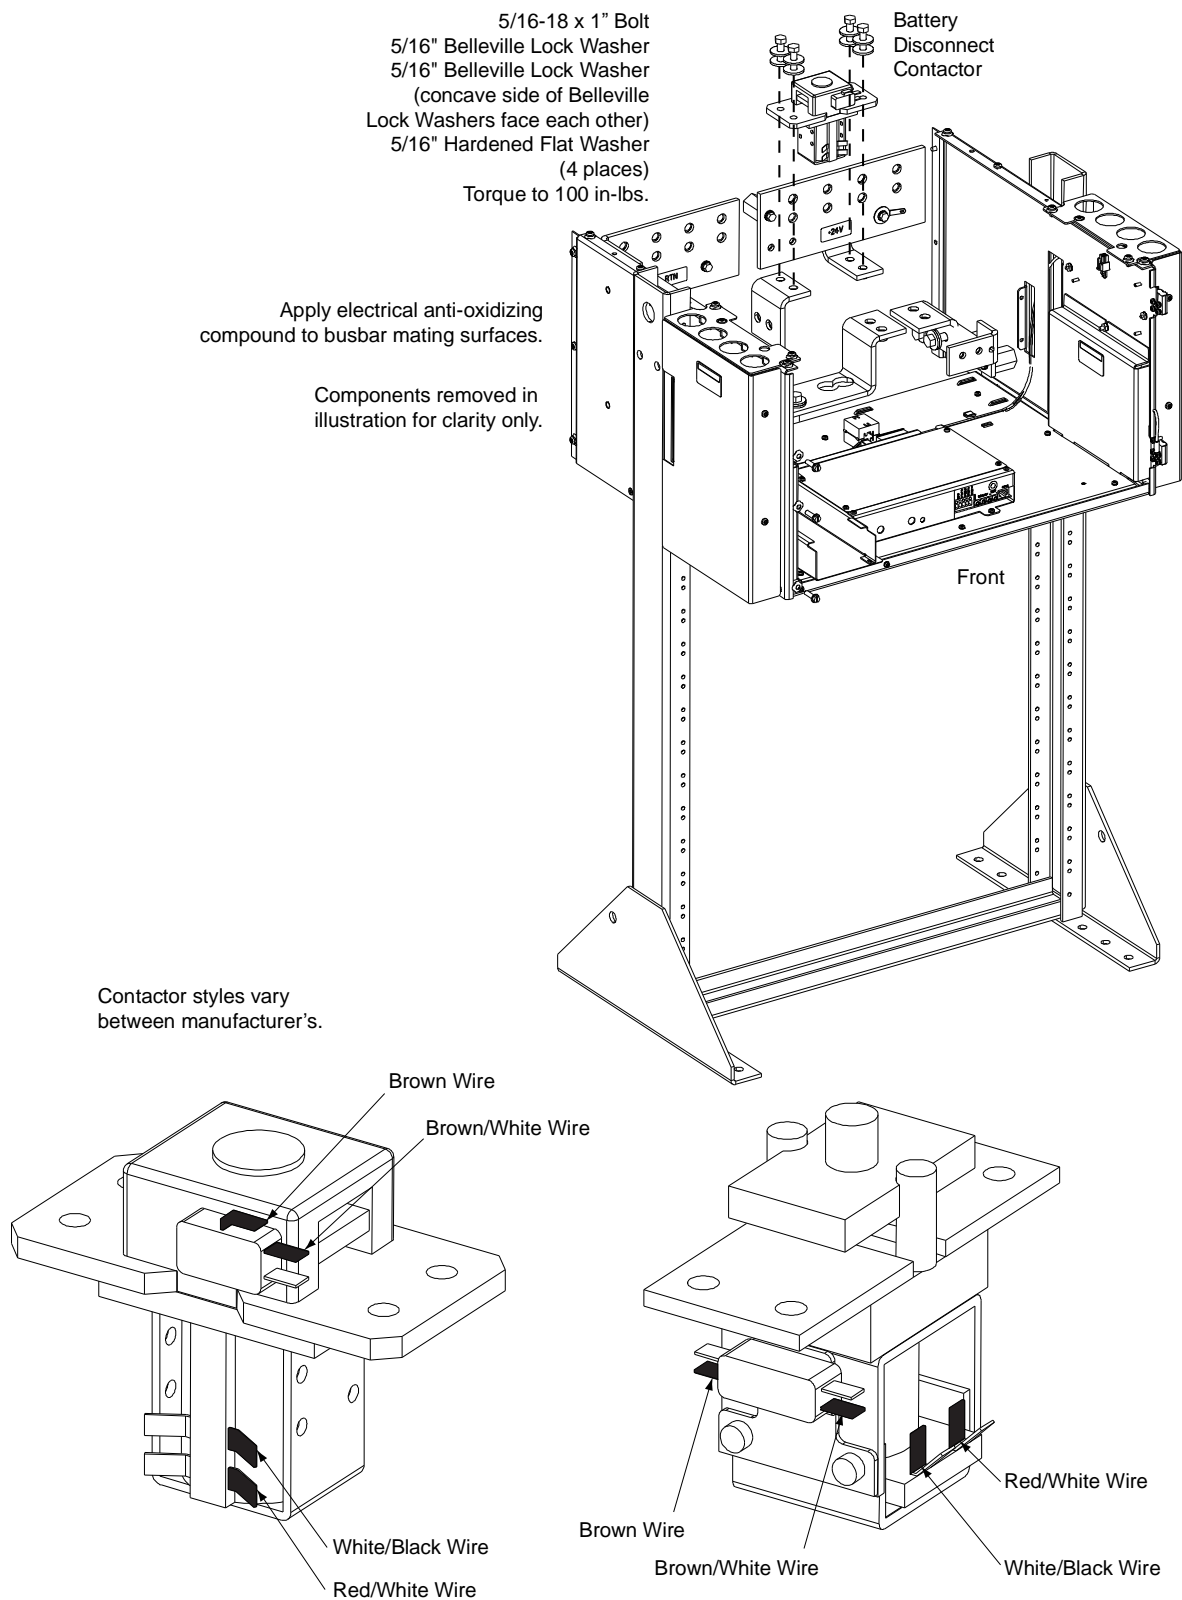
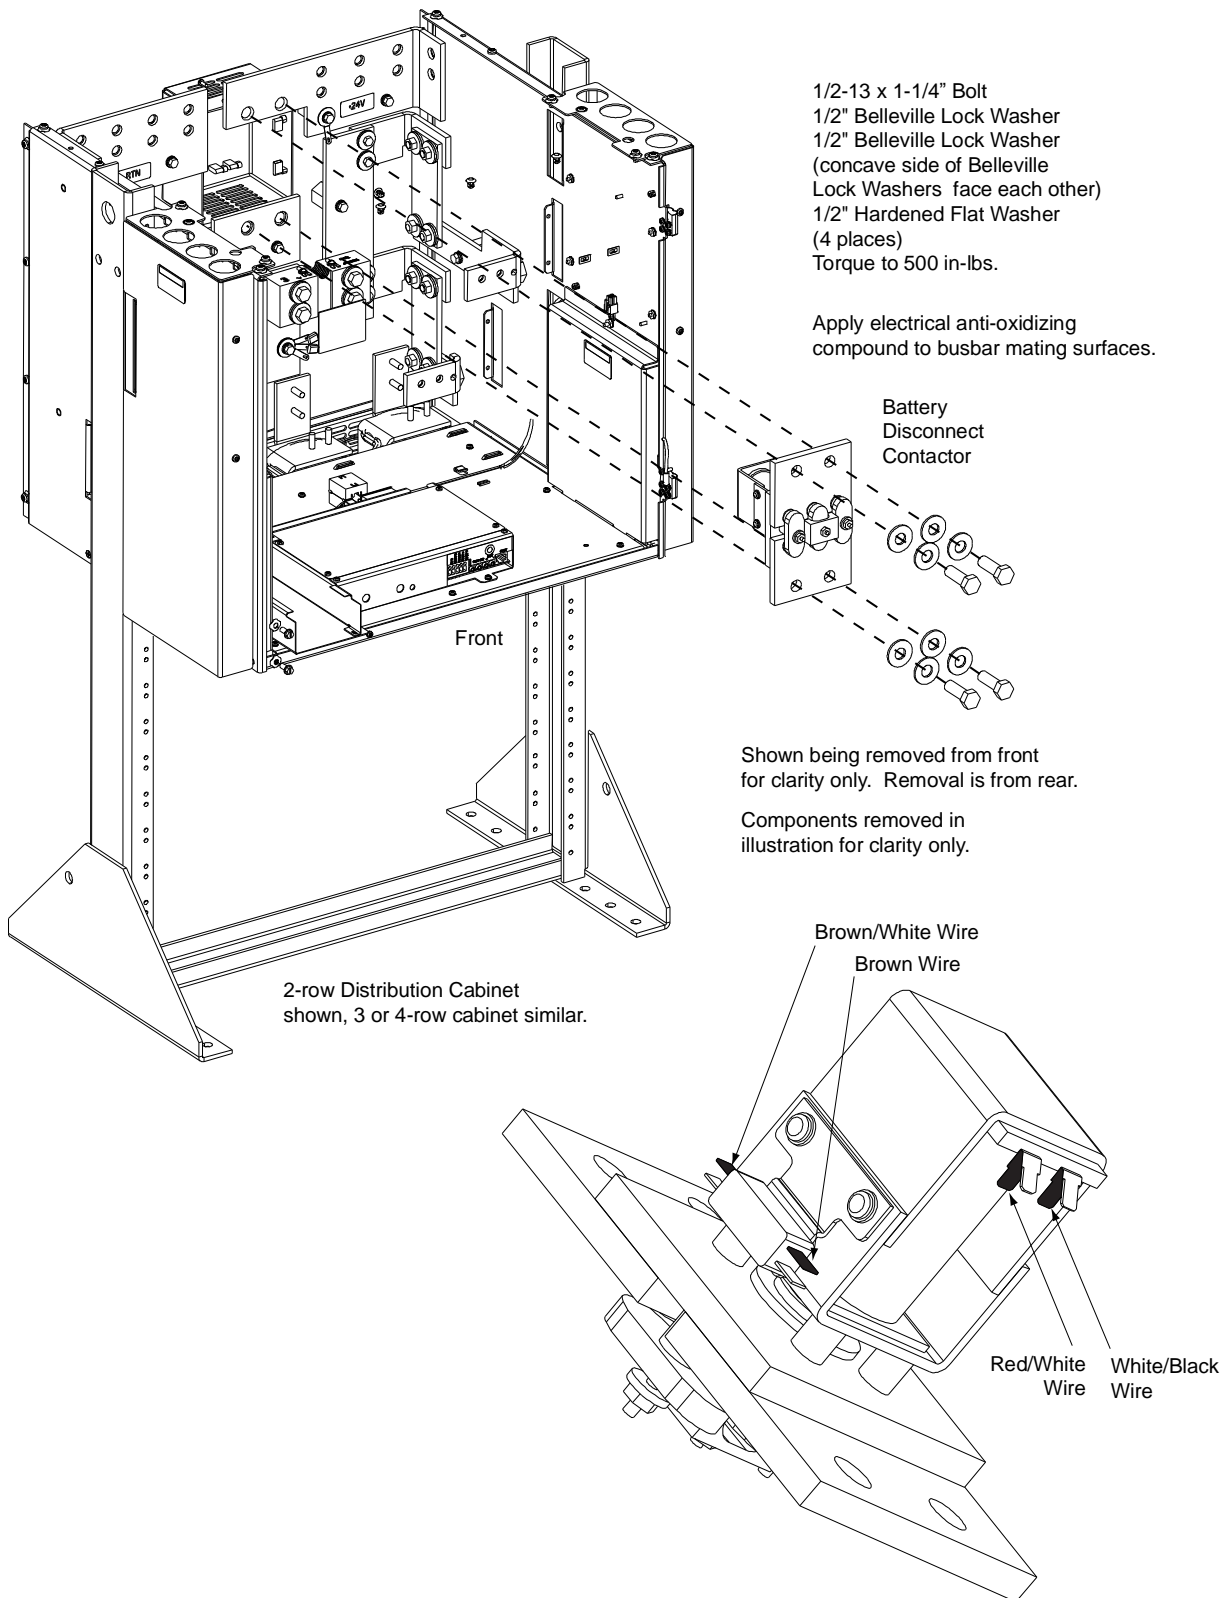
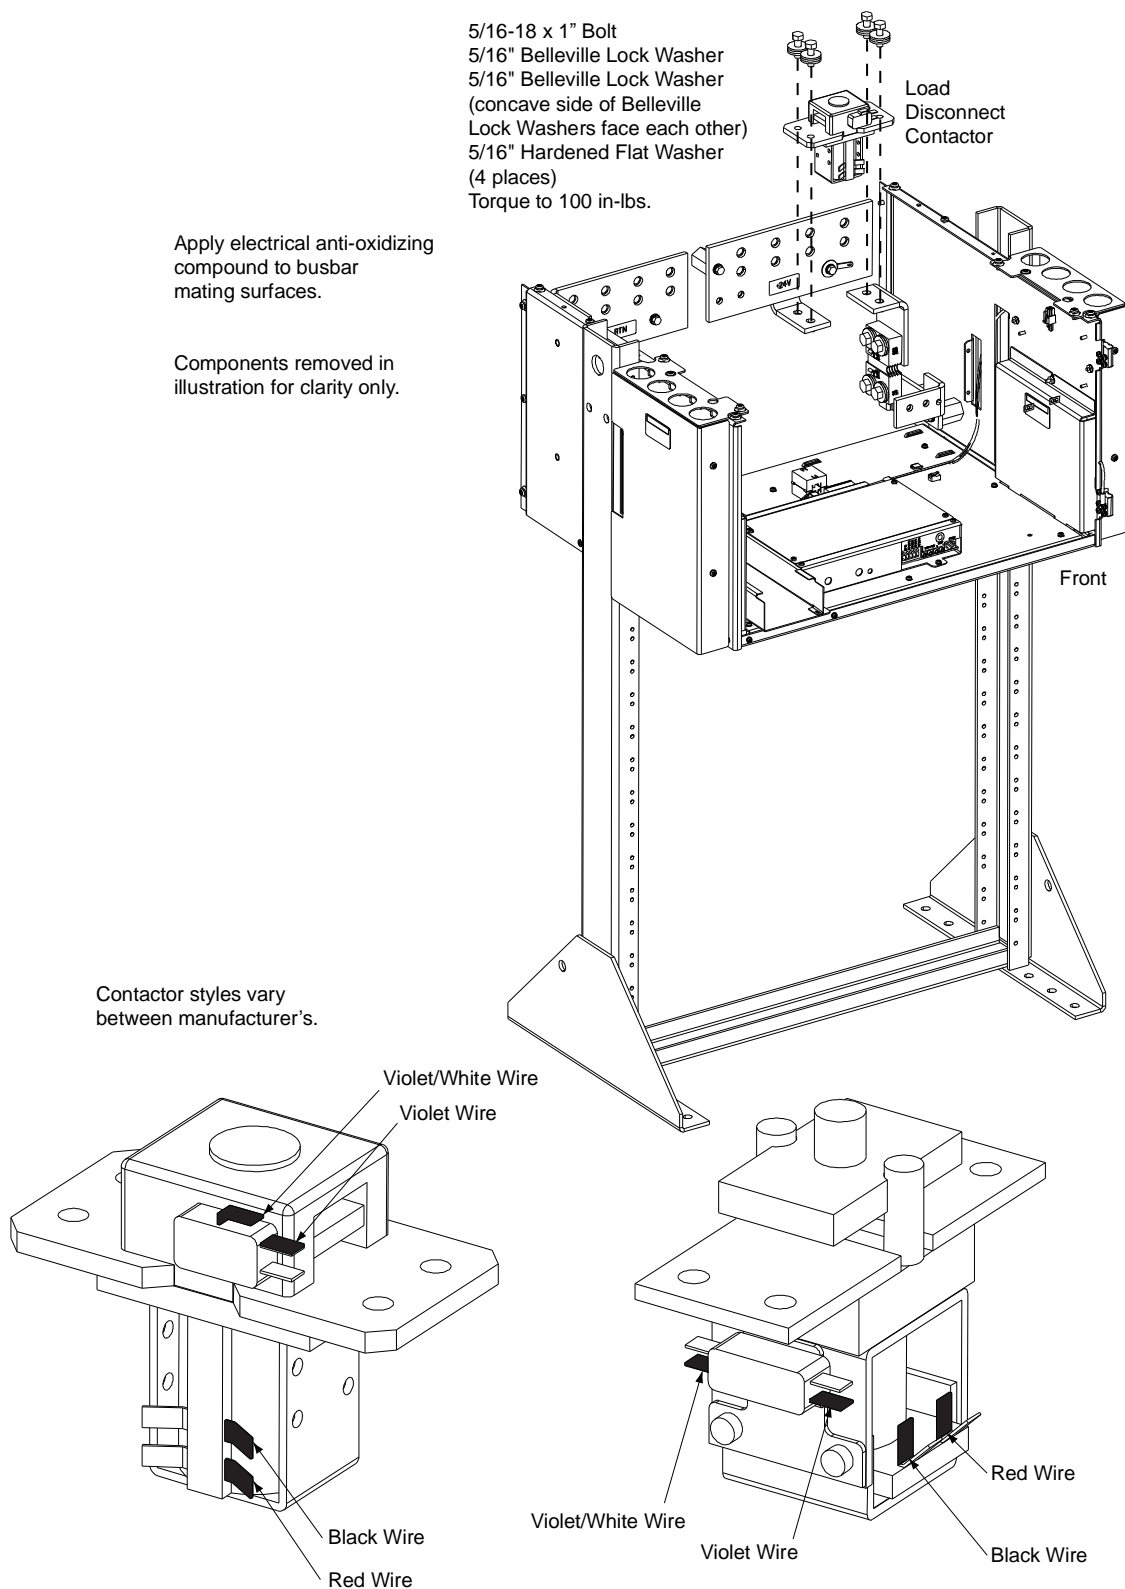
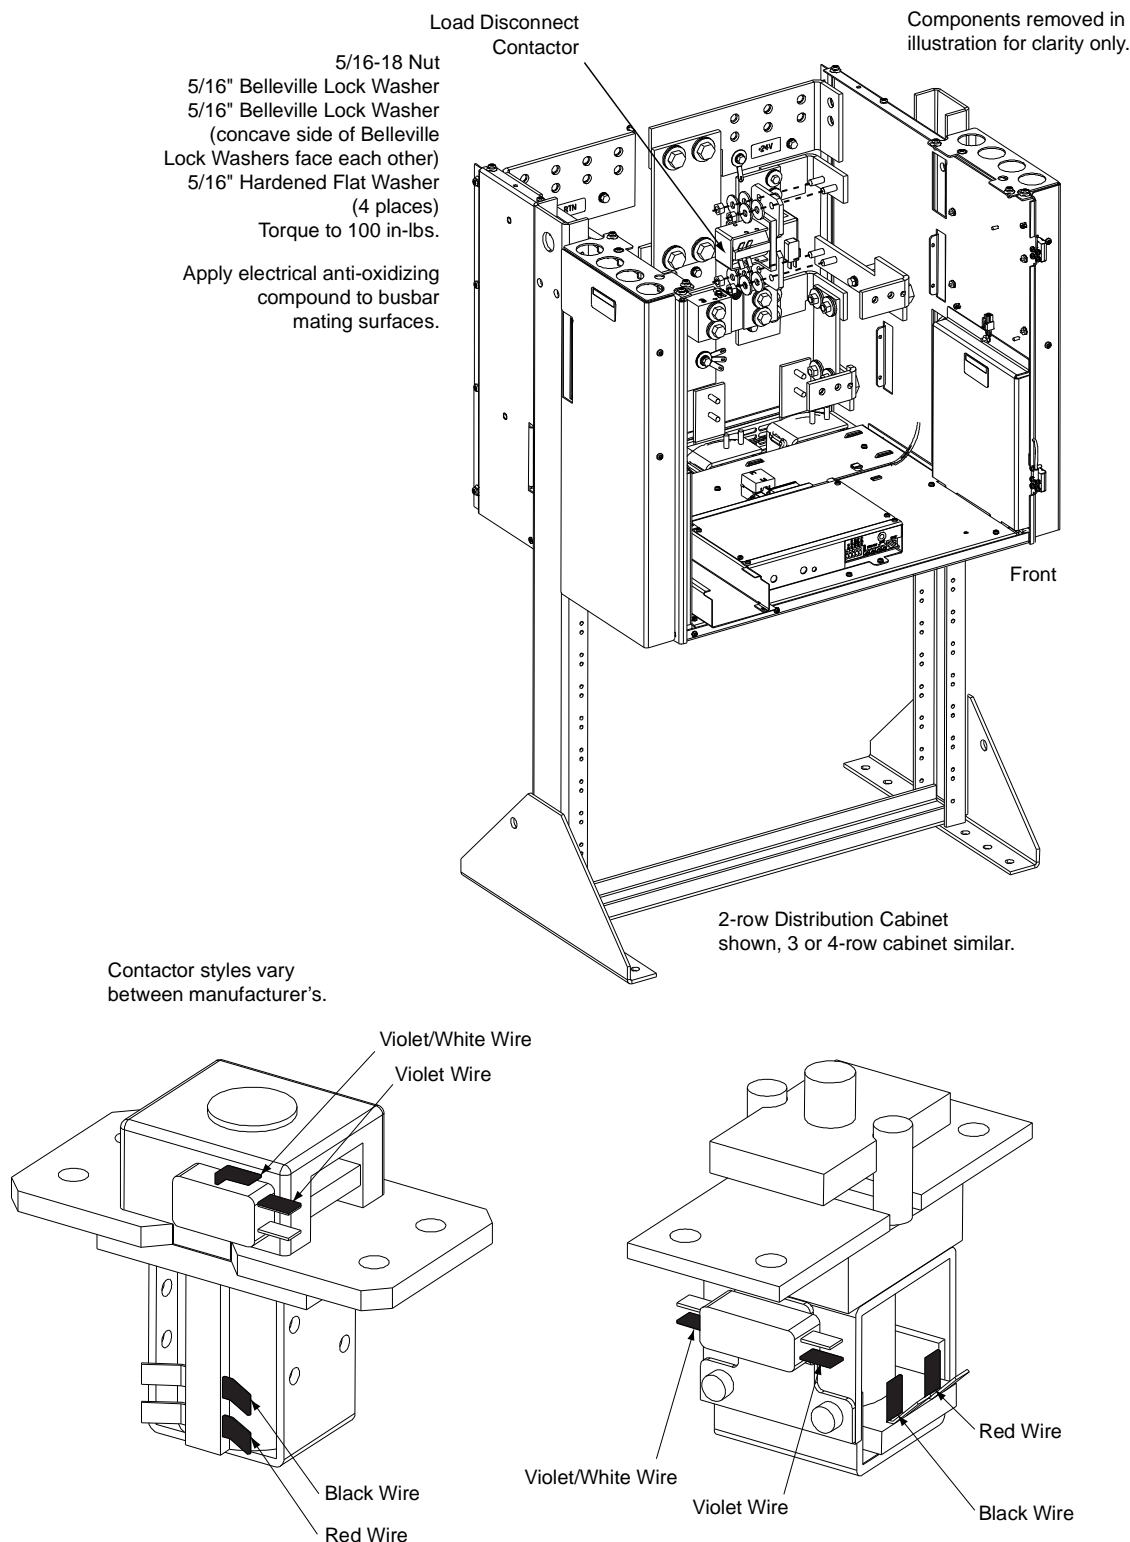

Figure 4-18
Figure 4-19
Figure 4-20
Figure 4-21
Note: *Refer to Figure 4-18, Figure 4-19, Figure 4-20, or Figure 4-21 as this procedure is performed.*
- 2) Secure the contactor with the hardware removed above. Refer to Figure 4-18, Figure 4-19, Figure 4-20, or Figure 4-21 for hardware build-up and recommended torque.
- 3) Replace the wiring to the contactor by plugging-in the quick disconnects. Refer to Figure 4-18, Figure 4-19, Figure 4-20, or Figure 4-21.